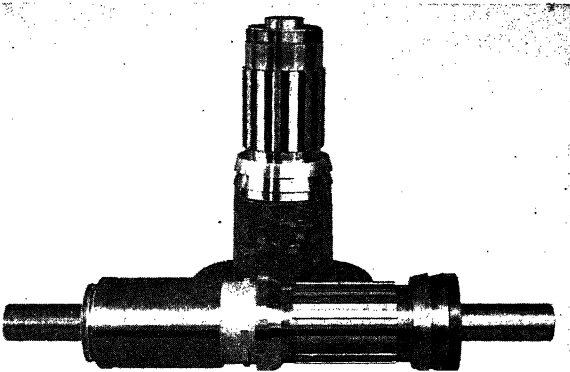

FIG. 11.—S.A.E. 50 splined bushing and mandrel assembly.
The splined bushing has a centering hole which fits either the spindle of the checking table or the mandrel used for balancing (Fig. 11). This combination of piston, split front cone, spider, splined bushing, rear cone, and
*Note:* The regular 20-deg. piston (with snap ring and split front cone) may be assembled in the propeller in place of the "dummy" piston provided the splined bushing is shimmed up high enough to prevent the spindle of the table fixture (Fig. 11) from contacting the base of the piston when the piston is tightened on the splined bushing.